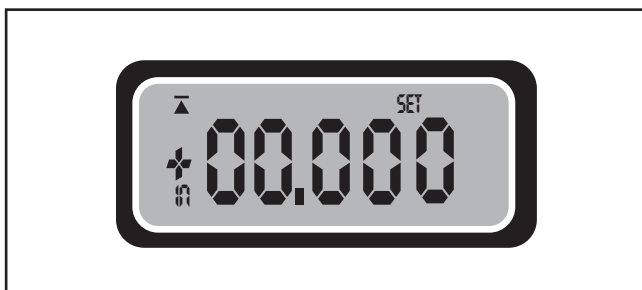

Figure 23. Setting upper limit.
2. Press the TOL button. SET flashes and Δ is displayed, indicating the upper limit mode setting, as shown in **Figure 23**.